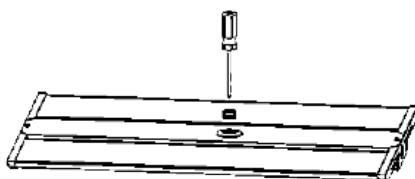

Figure 12
Step 1: Use a screwdriver to remove the 1/2 plug from the sensor; (Figure 12)